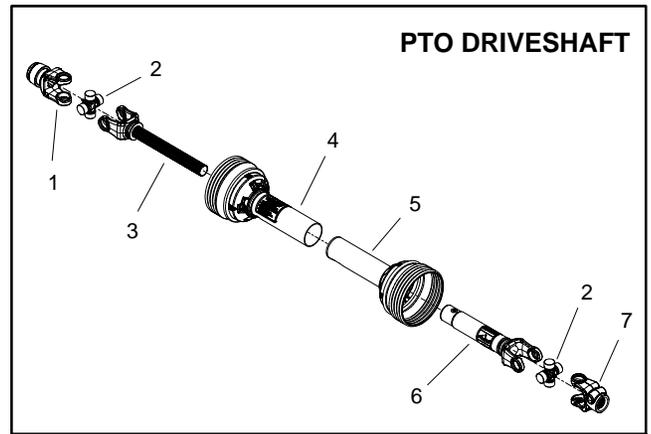

Figure 37
- B. PTO driveshaft should be installed with safety slide lock yoke toward tractor (Fig. 37).
6. Secure driveshaft end yokes to shafts with two (2) cap screws and lock nuts. Torque lock nuts from **70 to 80 ft-lb (95 to 108 N-m)**.